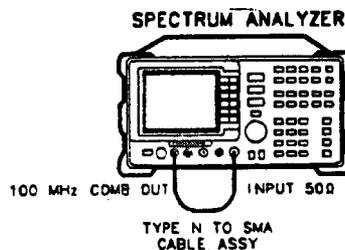

Figure 2-18. CAL YTF Adjustment Setup
2. Connect the 100 MHz COMB OUT to INPUT 50Ω using the YTF CAL cable. Refer to Figure 2-18.